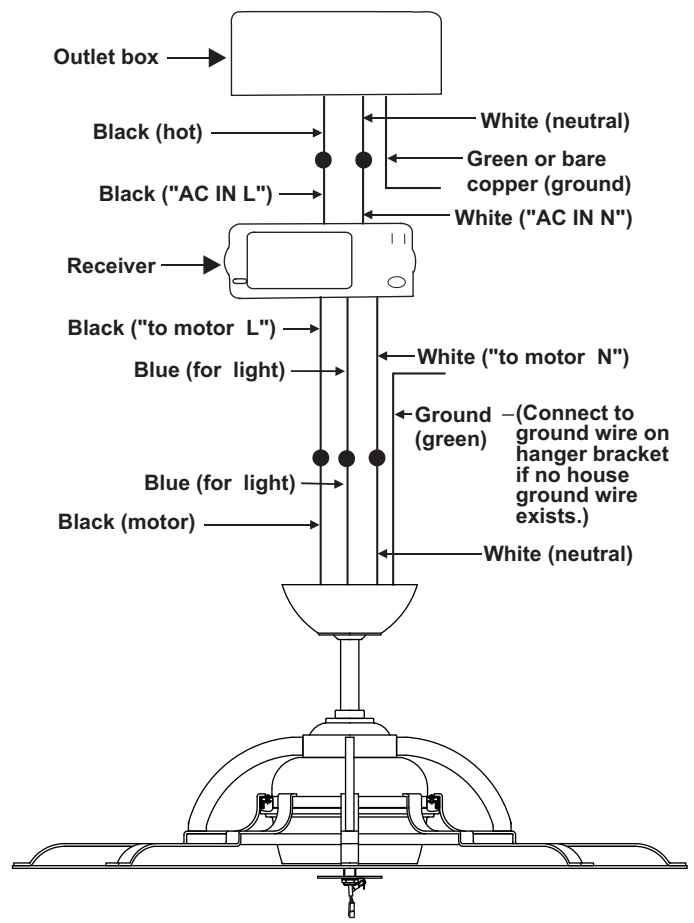

Figure 13
Step 2. (Figure 13) Motor to Receiver Electrical Connections: Connect the black wire from the fan to black wire marked "TO MOTOR L". Connect the white wire from the fan to the white wire marked "TO MOTOR N" from the receiver. Connect the blue wire from the fan to the blue wire marked "For Light" from the receiver. Secure the wire connections with the plastic wire nuts provided.
Step 3. (Figure 13) Receiver to House Supply Wires Electrical Connections: Connect the black (hot) wire from the ceiling to the black wire marked "AC in L" from the receiver. Connect the white (neutral) wire from the ceiling to the white wire marked "AC in N" from the Receiver. Secure the wire connections with the plastic wire nuts provided.
Step 4. (Figure 13) If your outlet box has a ground wire (green or bare copper) connect it to the fan ground wires; otherwise connect the hanging bracket ground wire to the mounting bracket. Secure the wire connection with a plastic nut provided. After connecting the wires, spread them apart so that the green and white wires are on one side of the outlet box and black and blue wires are on the other side. Carefully tuck the wire connections up into the outlet box.